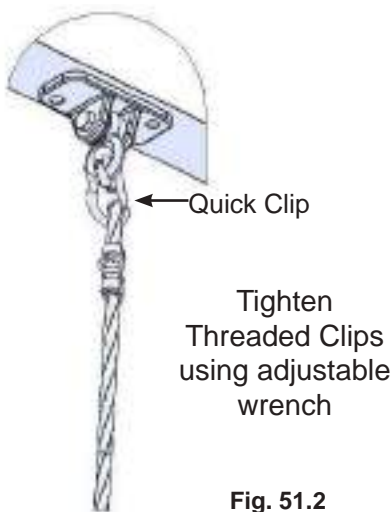

Fig. 51.2
**Caution:** Threaded Quick Links must be installed with the gate completely down covering the threads and tighten as instructed. (fig. 51.2)